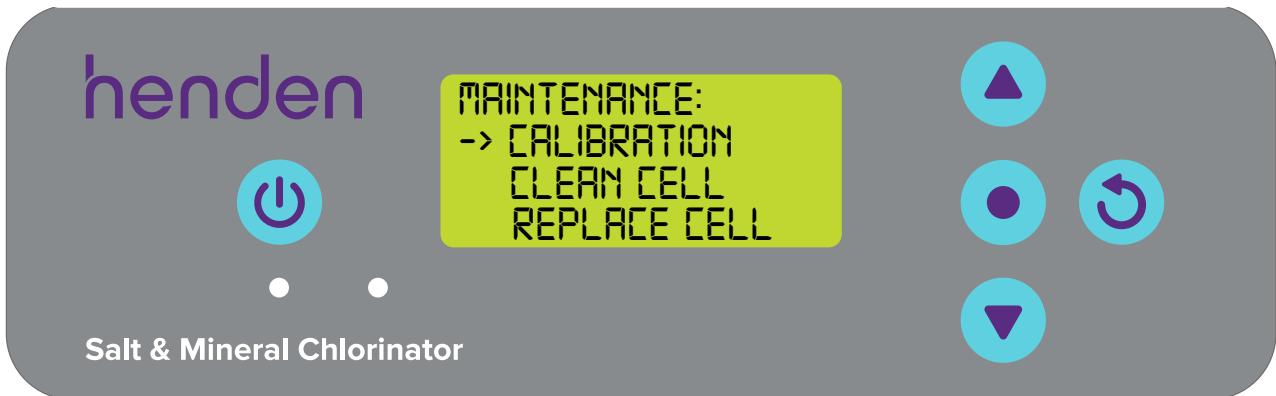

Figure 8.44
- Press the  menu up/down button (Figure 8.44)